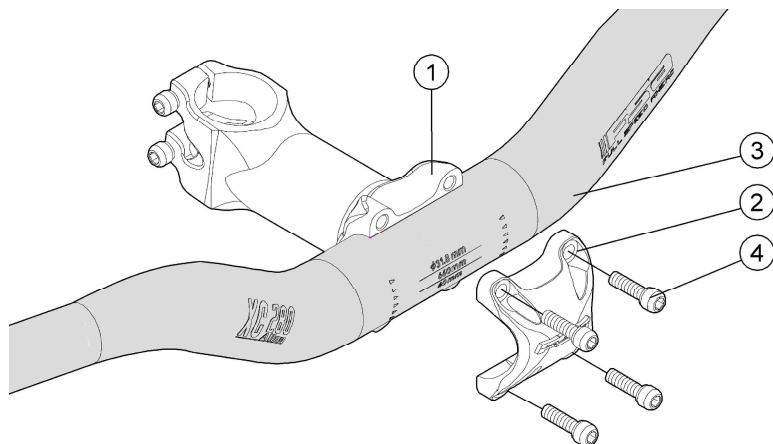
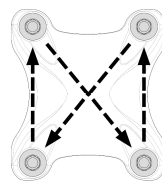

Fig.1
Fig.2
1. Be sure that the handlebar clamp diameter is 31.8mm. Ensure that the stem body ① and stem face plate ② is clean and free of burrs or chips. Remove burrs, chip or debris with sand paper before installing handlebar.
2. Apply FSA Dynamic Assembly paste to handlebar clamp area (recommended for carbon handlebars). Insert handlebar ③ between the stem body and stem face plate. Use markings on front of handlebar to center handlebar. Adjust the angle of handlebar to desired position.
3. Tighten the stem face plate fixing bolts ④ to minimum torque necessary to secure handlebar. Do not over-tighten the clamp or damage can occur to handlebar.
Note: For Four Bolt stem clamps (pictured in Fig.1), tighten the stem face plate fixing bolts ④ in a diagonal pattern 1/4 to 1/2 turn at a time (Fig.2). For two-bolt stem clamps, alternate between bolts 1/4 to 1/2 turn at a time. Using this method will tighten bolts evenly and reduce chance of damage to bar or stem.